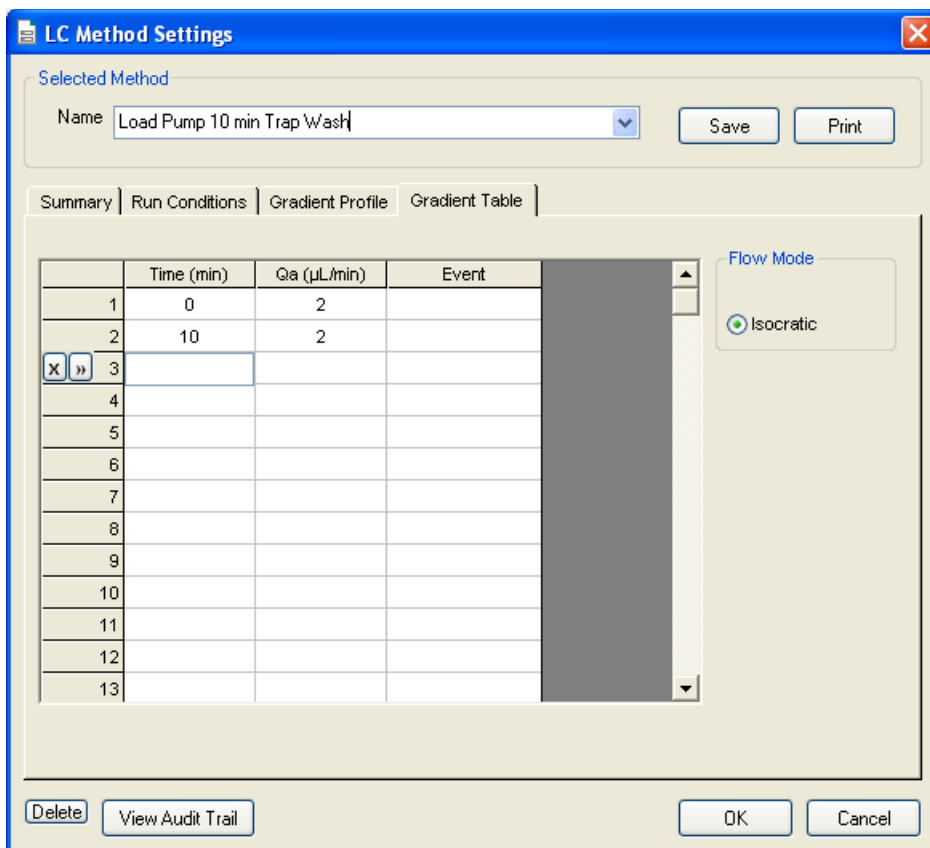

Figure 3-14 LC Method Settings dialog—Gradient Table tab
4. On the **Gradient Table** tab, revise the method for the loading pump (the loading pump will be the pump with the microflow module), as shown in Figure 3-14.